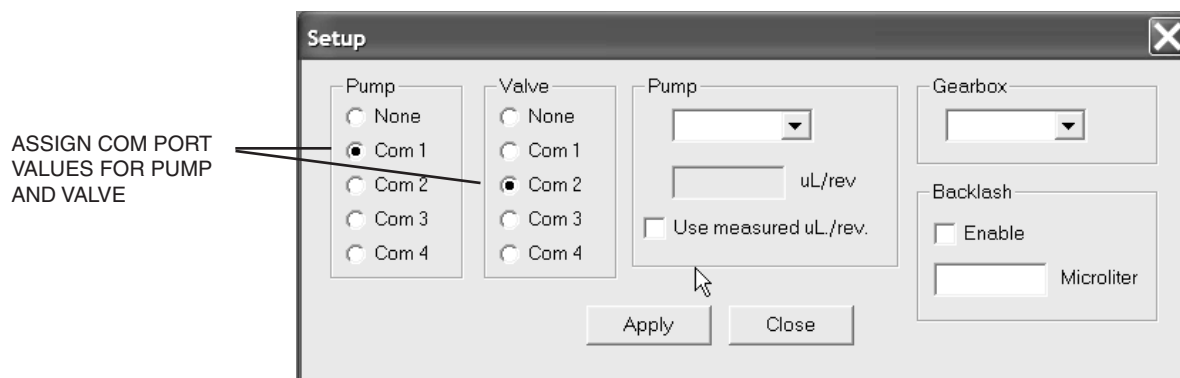

Figure 5: Select COM ports for pump and valve
3. Select the correct COM port for the pump and valve. If no valve is being used, select None. (**Figure 5**)